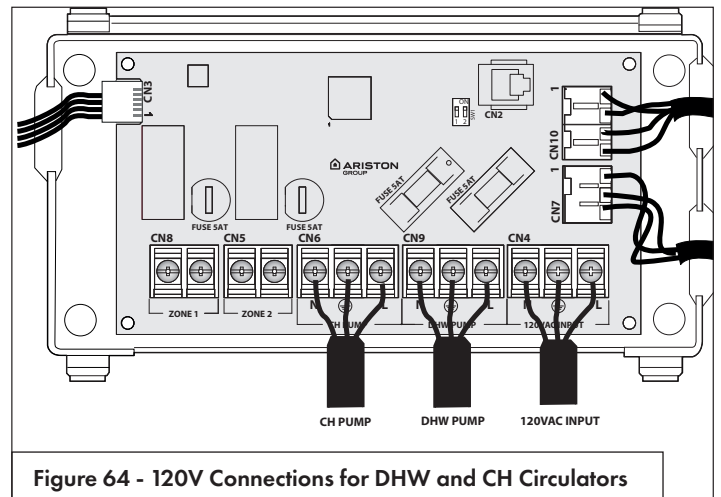

Figure 64 - 120V Connections for DHW and CH Circulators
6. Connect the field wiring to the respective output; see Figure 64.